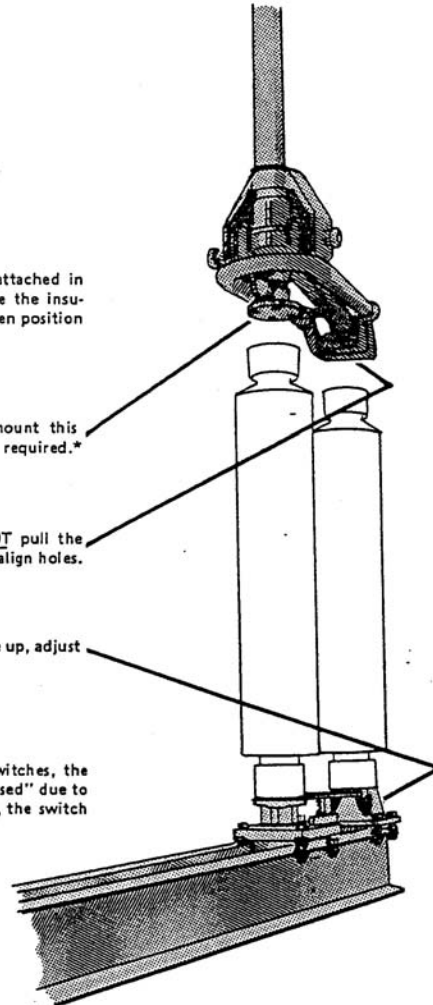

Figure 6
6. Mount the hinge and blade assembly as directed in figure 6. Be sure that the match marks made earlier are aligned.